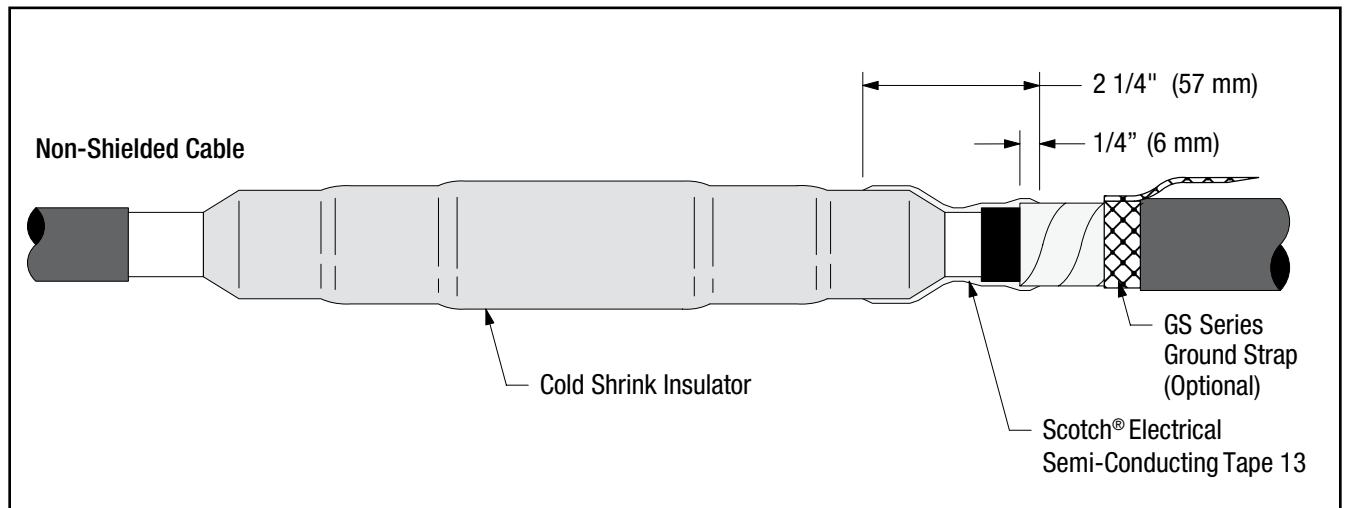

Figure 13
- a. Starting 1/4" (6 mm) on cable's metallic shielding (i.e. tape, wire or uniShield®) apply 2 half-lapped layers of Scotch® Electrical Semi-Conducting Tape 13 over the end of the cold shrink insulator for a total wrapped distance of 2 1/4" (57 mm) (Figure 13).